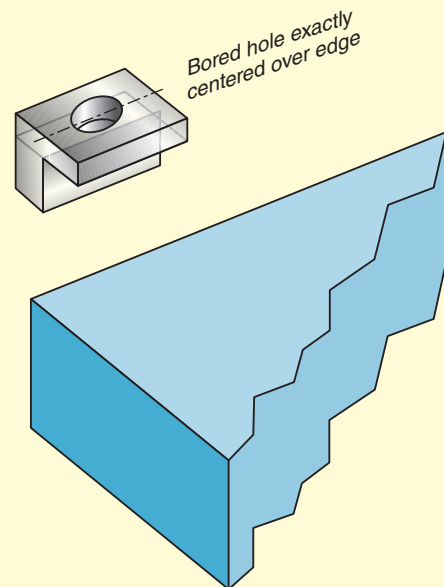

Figure 24-6 An indicator target speeds the use of DTI over an edge.
2. **Datum Hole Accessory** This little homemade gem can save time during precision datum alignment. It features a hole precisely bored directly in line with a ground test edge. When clamped against the edge in question, indication is simplified by spinning the probe in the hole. You can make this tool as a shop project! (See Fig. 24-6.)